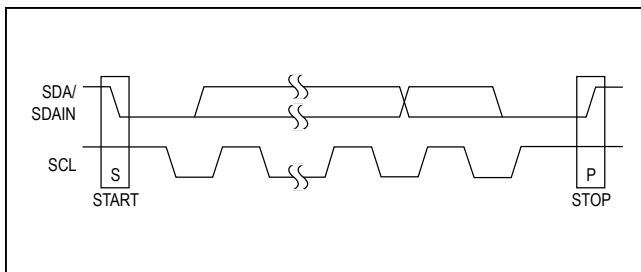

Figure 6. START and STOP Conditions
communicating with the slave, the master issues a STOP (P) condition by transitioning SDA from low to high while SCL is high. The STOP condition frees the bus for another transmission (see Figure 6).